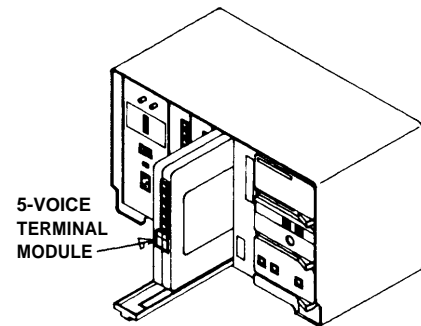

Figure 4
4. Slide the 5-voice terminal expansion module (Figure 4) into mounting slot until it is properly seated. (Do Not Use Excessive Force.)